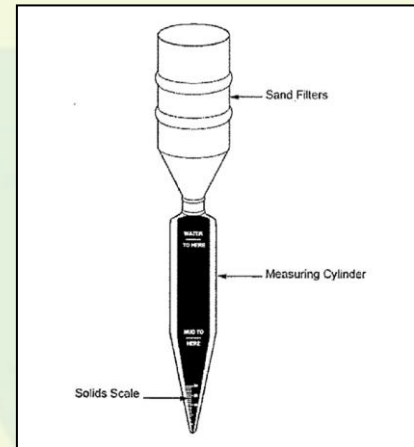

Figure 3: Apparatus for Sieve N^o200 (75 μ m), 2 in. (50 mm) in diameter.
- i) Sieve N^o200 (75 μ m), 2 in. (50 mm) in diameter; refer to Figure 3: Apparatus for Sieve N^o200 (75 μ m), 2 in. (50 mm) in diameter